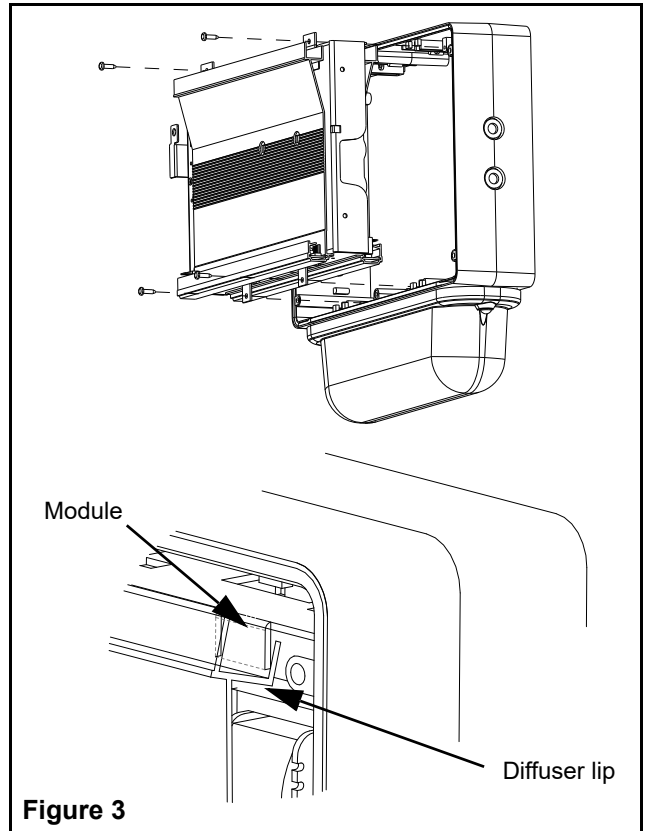

Figure 3
- g. In order to access the knockouts of the frame, remove the 4 electronic module screw(s) holding the electronic module to the frame (see figure 3), disconnect the lamps from terminal block and remove the electronic module.
- k. For double face models: Before re-installing the electronic module, you must first re-install the diffuser (10) by clipping the top section to the electronic module and then screwing the bottom section (see figure 3).
- c. Remove the 4 electronic module screw(s) holding the electronic module to the frame (see figure 3), disconnect the lamps from terminal block and remove the electronic module.